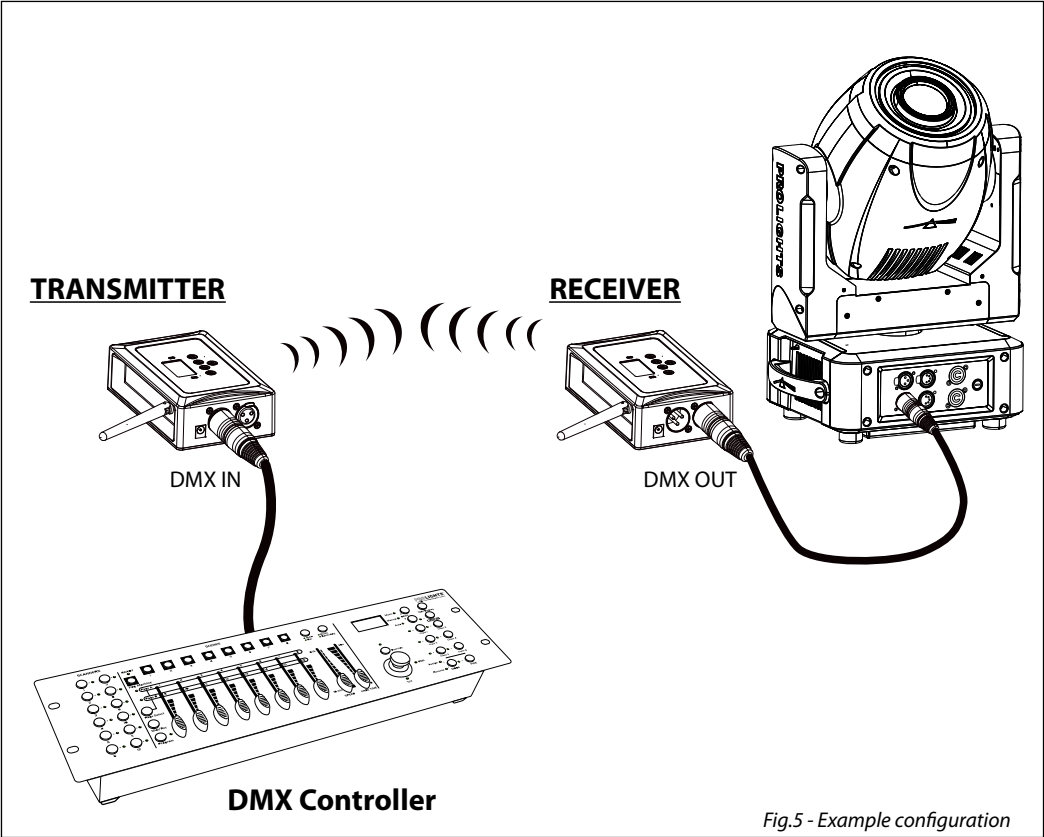

Fig.5 - Example configuration
- It can be connected to any DMX lights and receive from compatible controller (fig.5).